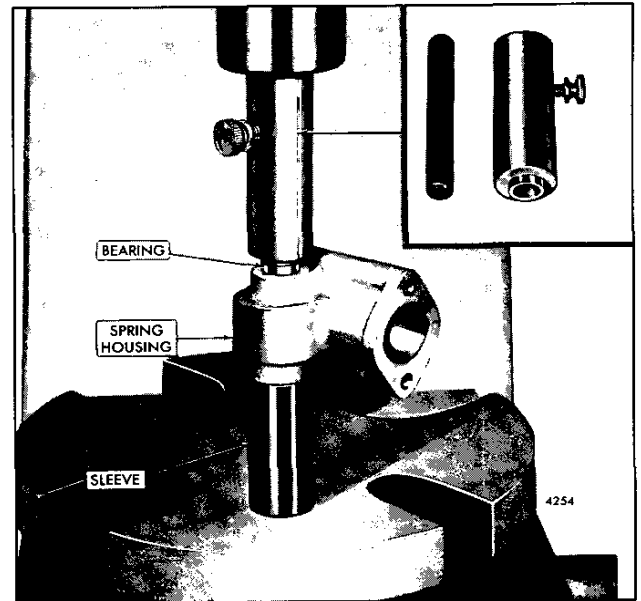

Fig. 8 - Installing Speed Control Shaft Bearings in Spring Housing Using Tool J 9196
3. Place the pilot rod end of the bearing installer assembly in the bearing. Support the spring housing, bearing and installer on a short sleeve on the bed of an arbor press and press the bearing in the housing until the shoulder on the installer contacts the housing (Fig. 8).
10. Remove the bearing pilot rod J 9196-2 from the installer body J 9196-1 and place the installer body over the end of the shaft and against the bearing. Support the spring housing, bearings and installer on a short sleeve on the bed of an arbor press and press the bearing in the housing until the shoulder on the installer contacts the housing (Fig. 8).